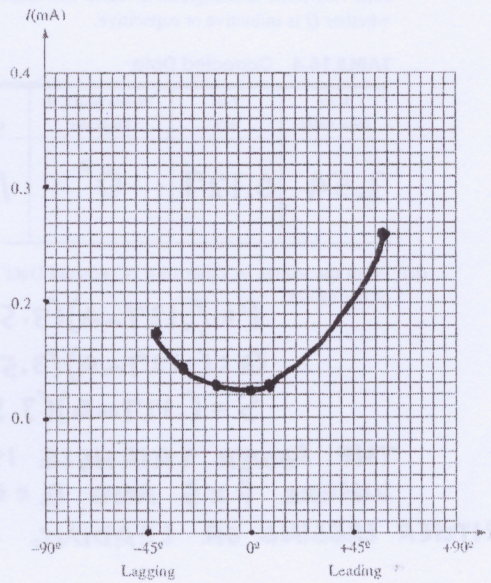

FIG. 16.5
- (i) Measure the voltage on channel 2 and then calculate the current using rms values. Enter the current in Tables 16.3 and 16.4 and on Fig. 16.5. Complete all entries in Table 16.3 and enter the voltage in Table 16.4.